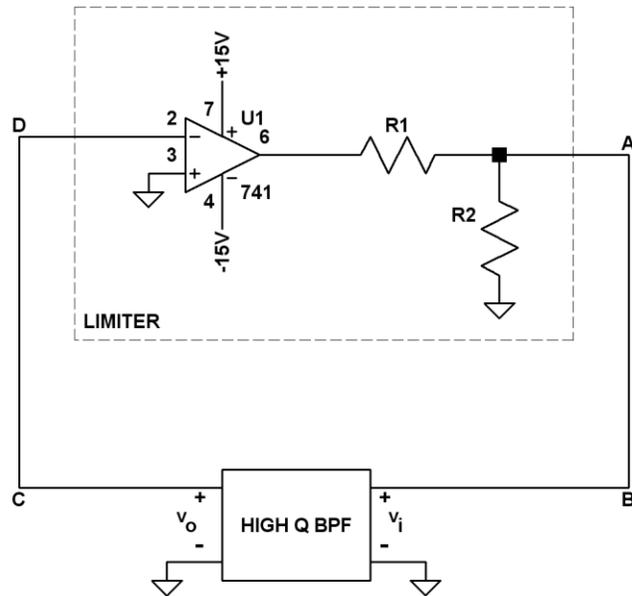
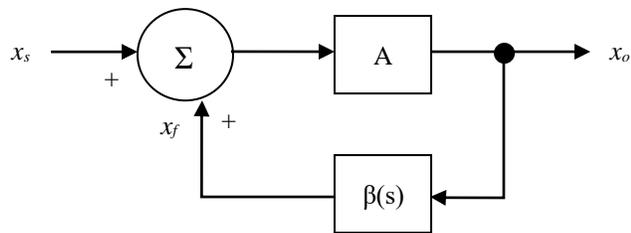

Figure 1. Active-Filter-Tuned Oscillator. See section 18.2.4 of [1] for a discussion.
Figure 2. Linear System with Positive Feedback. See Figure 18.1 of [1] and related text for a discussion.
3. Review the circuit of Figure 1. Node C is the circuit output (there is no “input” - this is an oscillator!)
4. Consider the block diagram of Figure 2. This is a model of the circuit of Figure 1 in which the nonlinear limiter is replaced by a linear amplifier of gain A and the bandpass filter is represented by a frequency selective network $\beta(s)$. Derive the ratio $X_o(s)/X_s(s)$ and determine the two conditions which will cause this system to oscillate.
1. "LINEAR" OSCILLATOR CIRCUIT CONSTRUCTION. Construct the circuit of Figure 1. Denote the center frequency of the bandpass filter as f_0 . Node B is the input of the bandpass filter while node C is the output. Node D is the input to the limiter while node A is the output. Insure that there is ONLY ONE GROUND for the entire circuit. The op-amps share the same ± 15 V supplies.